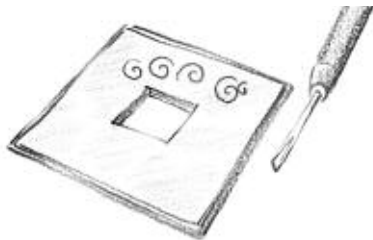

Figure 5.
Step 1. Start by making a square PMC piece with a square hole in the center. Fire and finish as usual. (Figure 5)